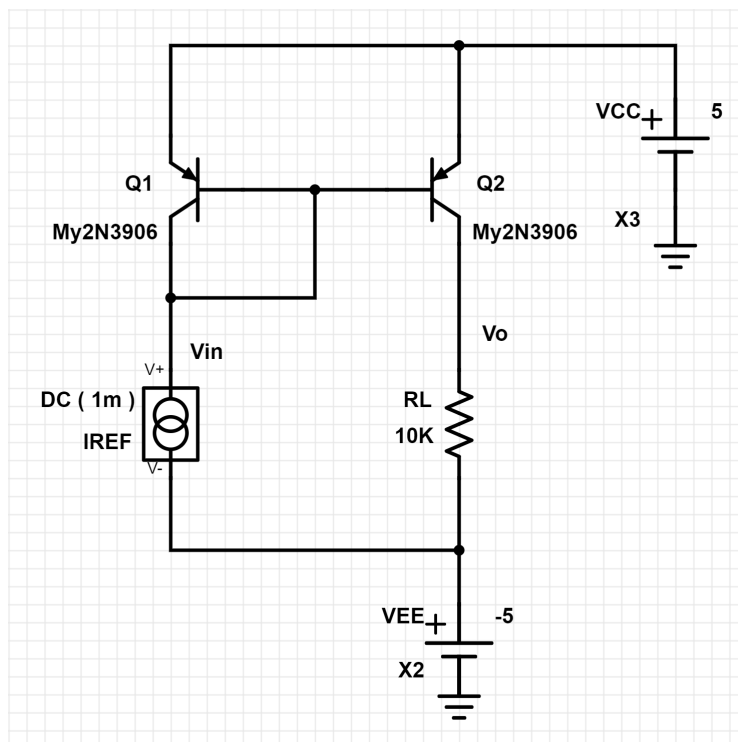

Fig. 2 Schematic diagram of the current mirror for the DC analysis
- 2.1 The current mirror transfers the AC signal from one side of a differential pair to the output port. To characterize a current mirror, construct the circuit in PartSim (or LTspice) with the resistance value and supply voltages, as shown in Fig. 2. Here the current source I_{REF} represents the reference current to be transferred, and the R_L represents the load at the output of the current mirror.